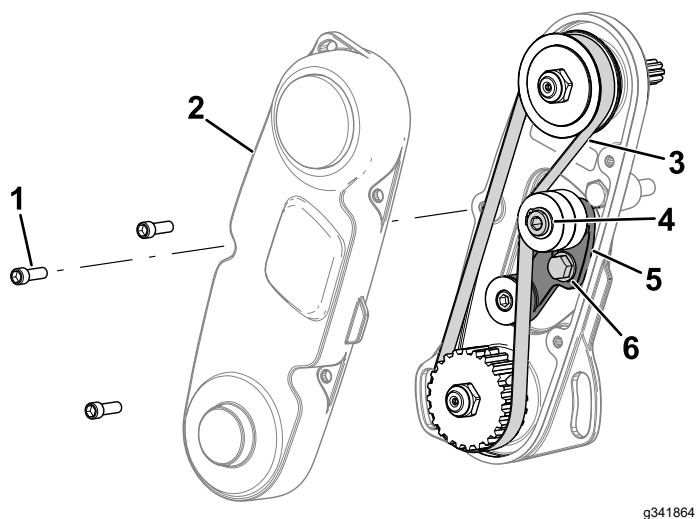

Figure 14
3. Use a beam-style torque wrench to apply 6 to 7 N·m (55 to 60 in-lb) of force to the upper idler-arm internal screw (Figure 14).